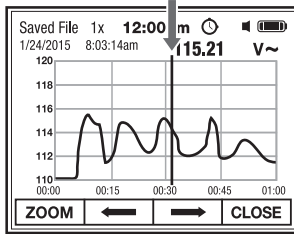

Fig. 14
4. Momentarily press the **F2** ⇐ or **F3** ⇒ soft key to move the cursor to the next measurement point or press and hold the soft key until reaching the desired point along the graph. The time line shown on the bottom of the graph indicates the time each measurement was recorded relative to the start of the recording (Fig. 14).
5. For greater resolution, momentarily press the **F1 ZOOM** soft key (Fig. 14) to expand the graph as shown below (the graph will expand up to 64 times depending on the number of measurement points):
6. Press the **F4 CLOSE** soft key to exit Saved File (Fig. 14).